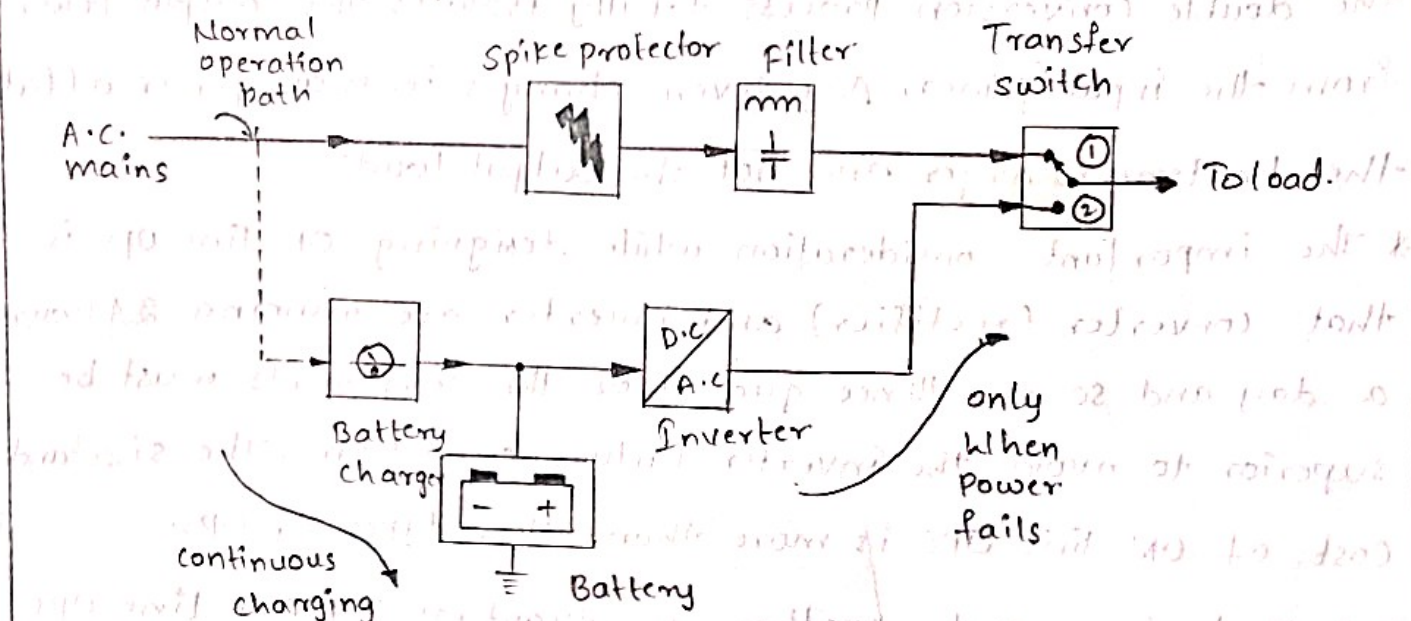

Fig. d.29.1 Block Schematic of OFF line Ups.
* The Fig. d.29.1 shows the blocks schematics of OFF line Ups.